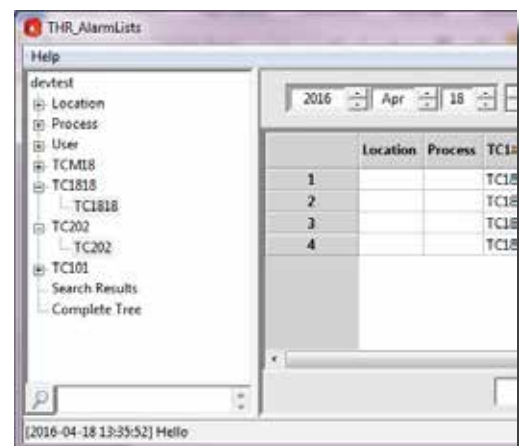

Figure 7: The Alarm List Tree View
1. From the tree view that is provided on the left side of the application, select the item(s) for which to generate the alarm history (Figure 7). Hold shift or control to select multiple items.